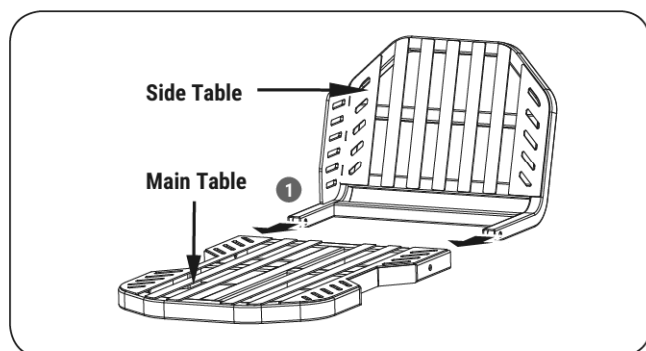

Figure 9a
1. Assemble the side table and the main table together to ensure that the hole positions at the connection are aligned. (See **Figure 9a, illustration 1**.)